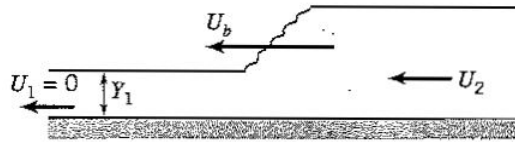

Figure P10.34
10.34 A bore is moving with velocity U_b into a stagnant tidal channel of depth Y_1 , as shown in Figure P10.34. When $U_b = \sqrt{3gY_1}$, find U_2/U_b .